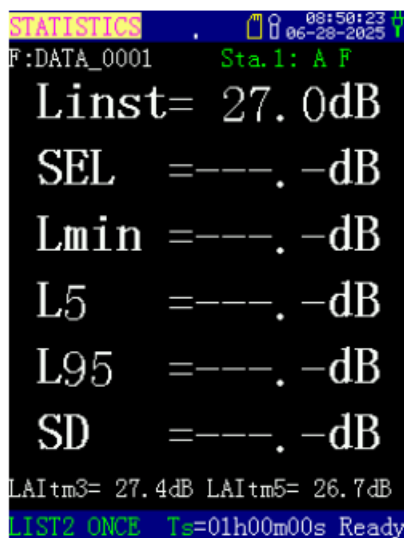

Figure 7.4 Statistics LIST2
- Under "List 2" the measurement indicators include Linst, Lmin, L5, L95, SEL, and SD, shown in Figure 7.4.